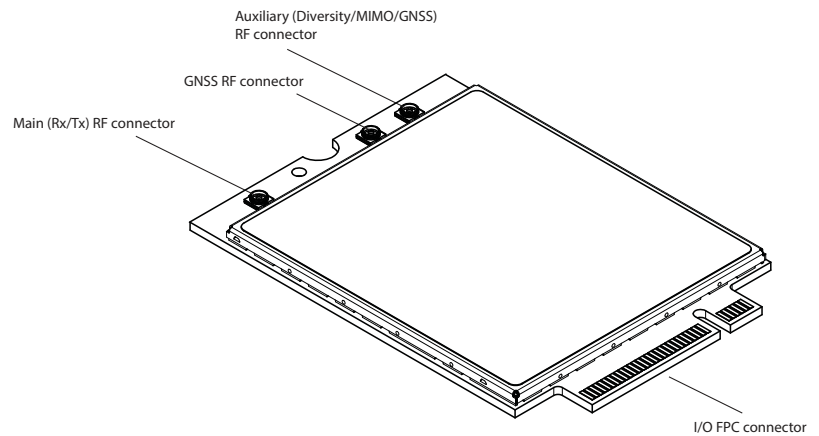

Figure 4-1: Module connectors
- Connect to system ground using the mounting hole shown in Figure 4-1 on page 41.